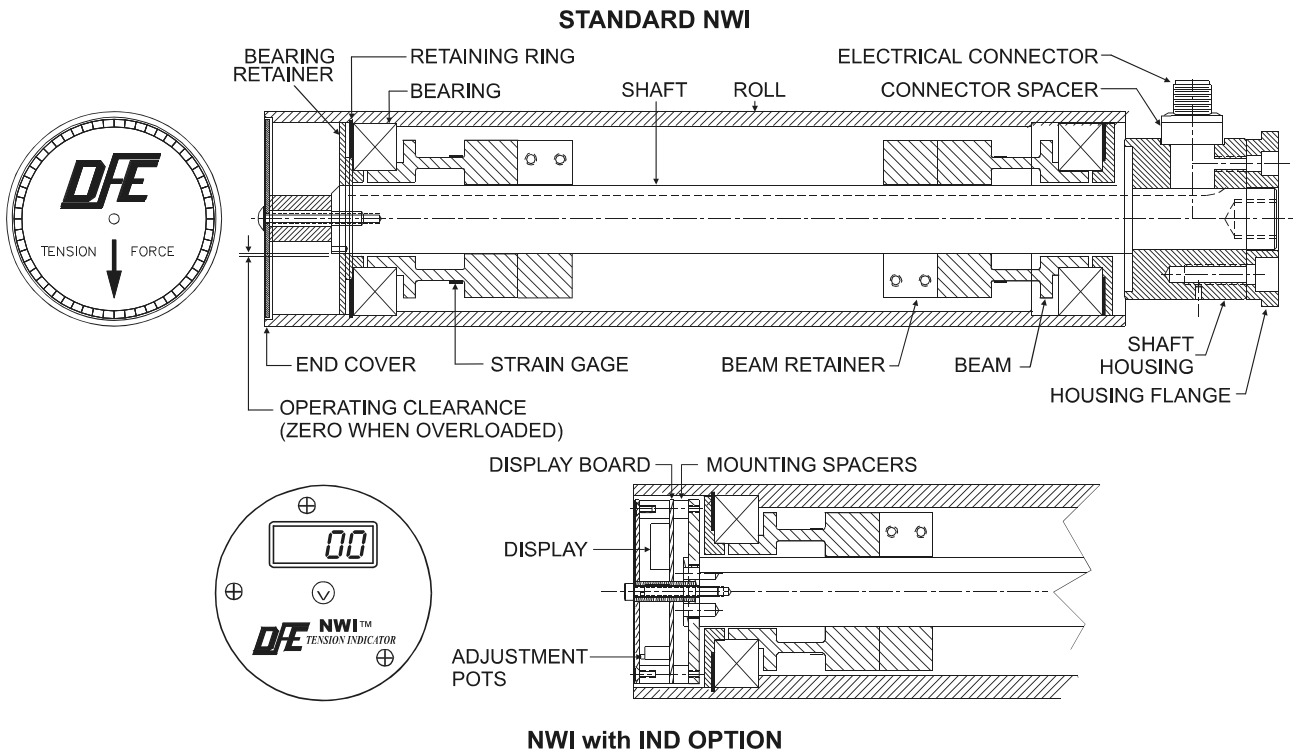

Figure 1 - CUT-AWAY VIEWS OF NWI TRANSDUCER
1.2 CONSTRUCTION AND MECHANICAL OPERATION (see figure 1)